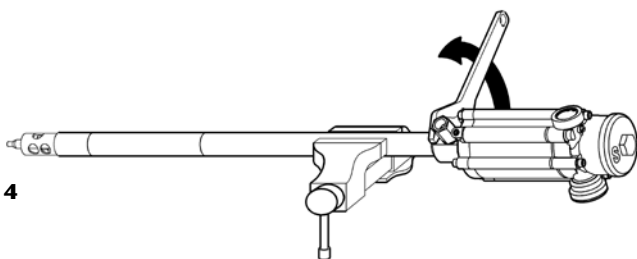

Fig. 4
3. Unthread the air motor from the suction tube and pull out the air motor until the pin get visible (fig. 4).